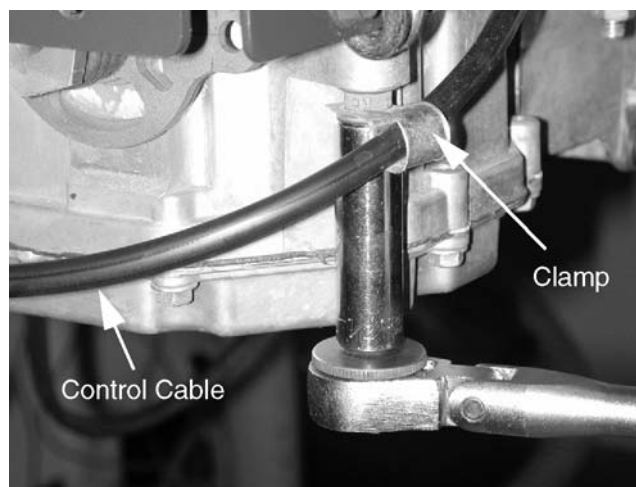

Figure 11-27
8. Remove the nut and clamp which secures the control cable to the IZT using a pair of 1/2" wrenches. See Figure 11-27.